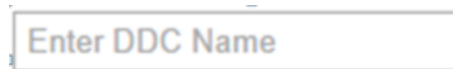

Figure 7. Dumping Binary File – Enter DDC Name
5. Enter the DDC name and path once a snapshot is chosen, then click Next (see Figure 7).